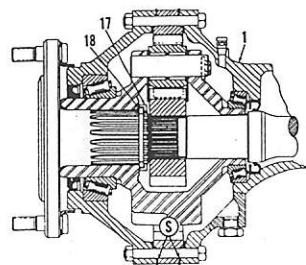

Fig. 242 — Cross sectional view of late three-pin (hybrid) planetary final drive unit.
In the late three-pinion (Hybrid) planetary unit, axle housing (1—Fig. 242) carries the "184" part number prefix and adjusting shims (S) are visible from the outside.